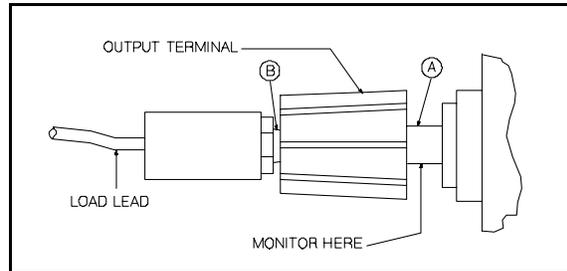

Figure A-3. Front Panel Terminal Connections
When performance measurements are made at the front terminals (Figure A-3) the load should be plugged into the front of the terminals at (B) while the monitoring device is connected to a small lead or bus wire inserted through the hole in the neck of the binding post at (A). Connecting the measuring device at (B) would result in a measurement that includes the resistance of the leads between the output terminals and the point of connection.